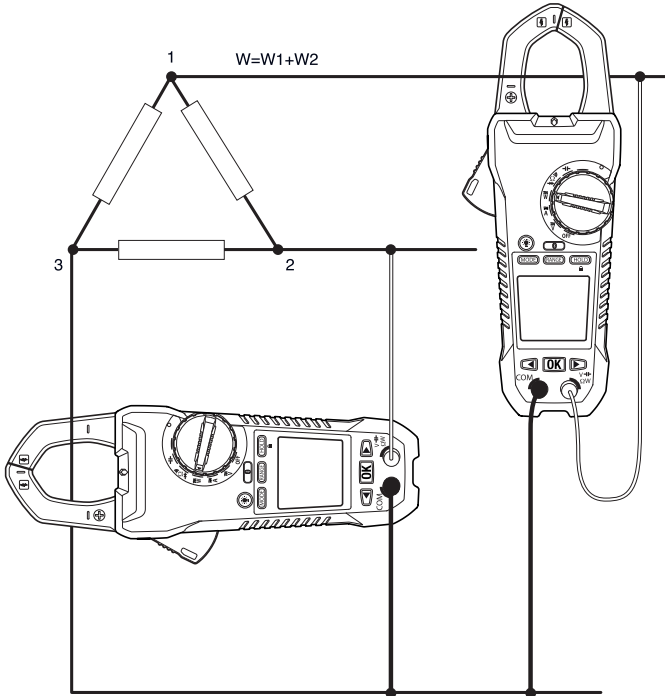

Figure 5.4 Three-phase three-wire measurements
The power of a three-phase three-wire delta configuration is measured in two steps, in accordance with Figure 5.4. The total power is the sum of the two measurements: $W = W_1 + W_2$.
3. Take two measurements of the active power, in accordance with Figure 5.4.